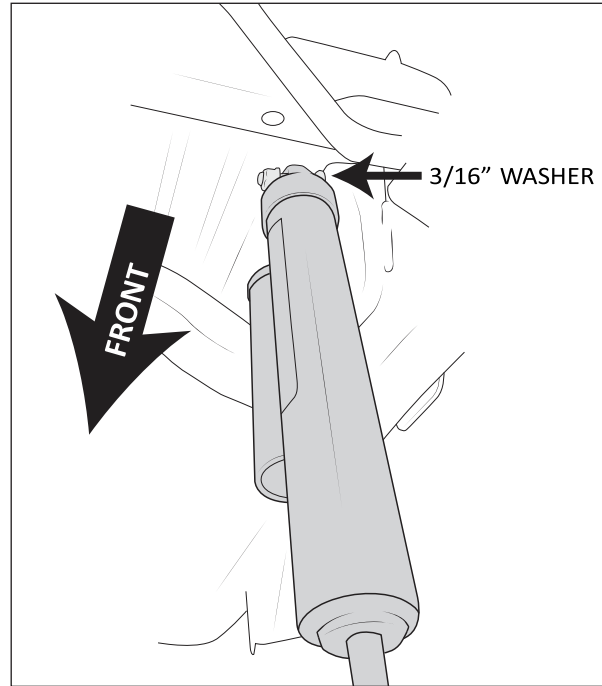

Figure 13
1. Install provided 3/16" thick washers onto upper shock mounting stud. This will prevent the shock body from making contact with the frame. Install shock onto stud with body up and reservoir pointed forward toward front of vehicle (fig. 13). Reinstall factory nut and torque to 111 ft-lb.